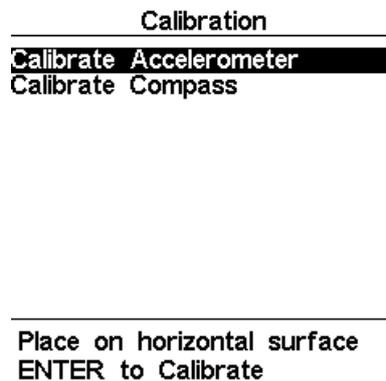

Figure 6.1: Calibrate Accelerometer menu option
1. Go to Menu->Settings->Calibration and choose the "Calibrate Accelerometer" option (see Figure 6.1);